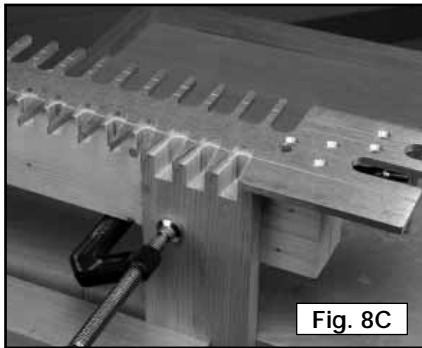

Fig. 8C
**Step 5** - Connect your router to the power source and cut the pins (Fig. 8C).